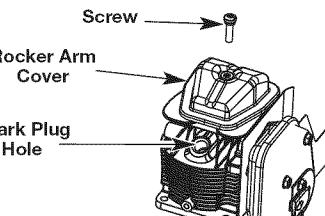

Fig. 29
5. Clean dirt from around the rocker arm cover. Remove the screw holding the rocker arm cover with a large flat blade screwdriver or Torx T-25 bit (Fig. 29). Remove the rocker arm cover and gasket.
- The piston is at the top of its travel. This should be done by looking into the spark plug hole. (Fig. 29)